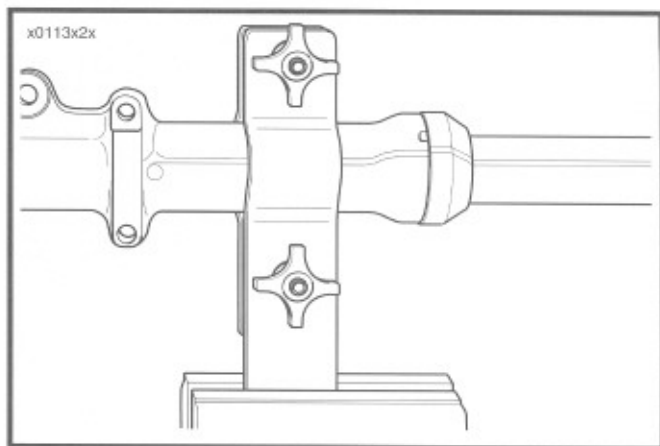

Figure 2-65.
8. See Figure 2-65 and 2-66. Position fork slider in vise using fork tube holder (HD-41177) to avoid damage.